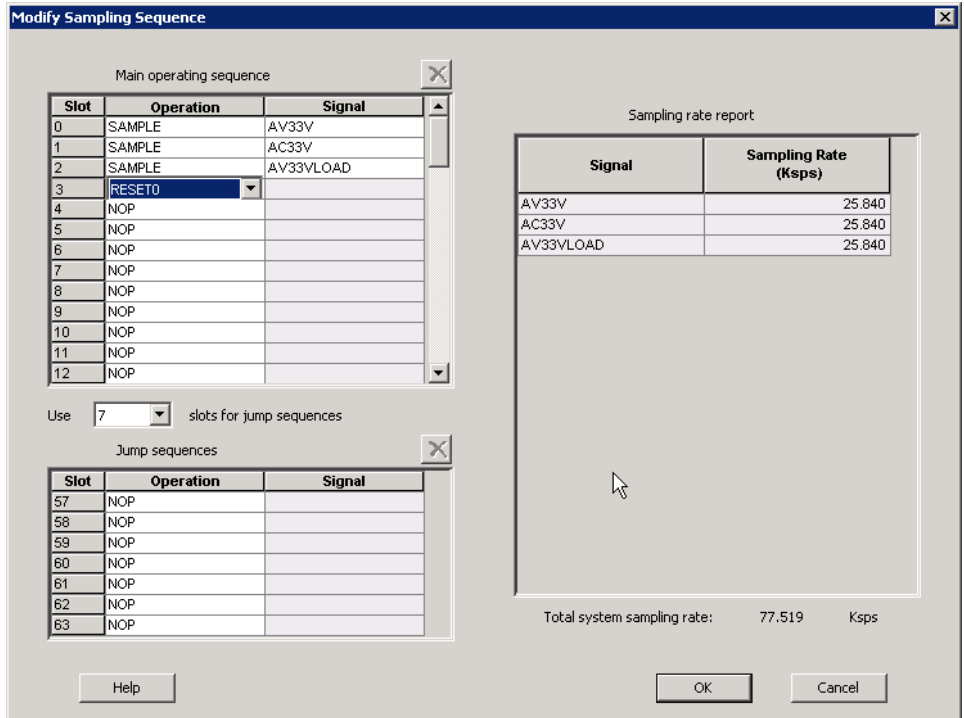

Figure 1-11. Modify Sampling Sequence
- Click **Modify Sample Sequence** in the ASB window to change the sample sequence (Figure 1-11 on page 17).
Set your sample sequence as shown in Figure 1-11. Set SLOT0 to SAMPLE on AV33V; set SLOT1 to SAMPLE on AC33V; and set SLOT2 to SAMPLE on AV33VLOAD, and set SLOT3 to RESET0.